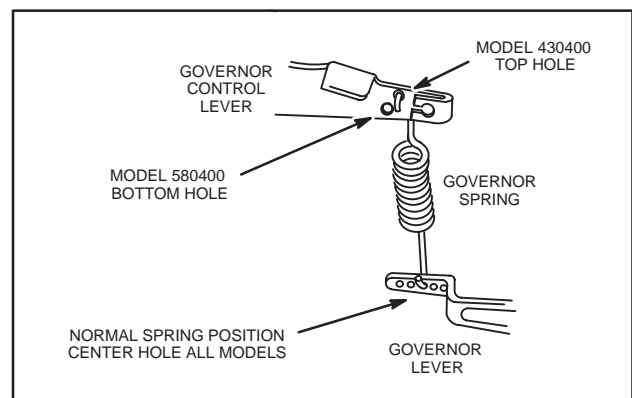

Fig. 34 – Governor Spring Position
6. Install intake manifold with new gasket. Install governor link and spring, Fig. 34.
Note: Normal spring position is in center hole in governor lever, all models, Fig. 34.
Important: Governor spring must be installed in correct hole in governor control lever by engine model, Fig. 34.